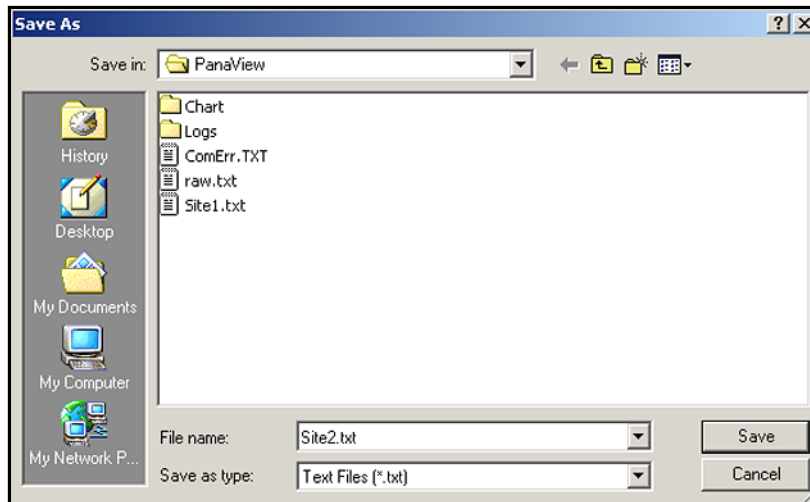

Figure 29: Save As Screen
To *save* the raw signal, click *Save* to open a screen similar to *Figure 29* below. Enter the desired name, and click *Save* to save the signal as a text file.
2. Click *Save Site to PC* to open a screen similar to *Figure 29 on page 110*.